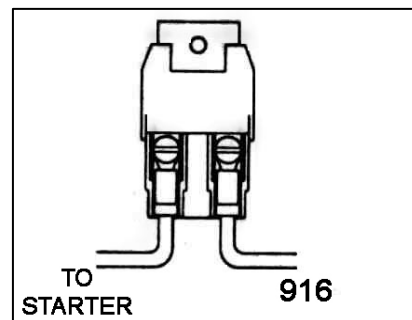

Figure 7-3 Maxi Fuse
7.3.1 With crimping tool, attach Maxi Fuse (Figure 7-3) onto end of ENGINE SECTION (single) 10 ga. wire #916 (red) AFTER having routed wire from the Fuse Panel to the Starter Solenoid. This serves as a fuse to protect the entire harness. DO NOT OMIT IT!
- 8.2.1** With crimping tool, attach the Maxi Fuse (**Figure 7-3**) onto end of ENGINE SECTION (single) 10 ga. wire #916 (red) AFTER having routed wire (with or without ammeter) from the Fuse Panel to the Starter Relay. This serves as a fuse to protect the entire harness. **DO NOT OMIT IT!**